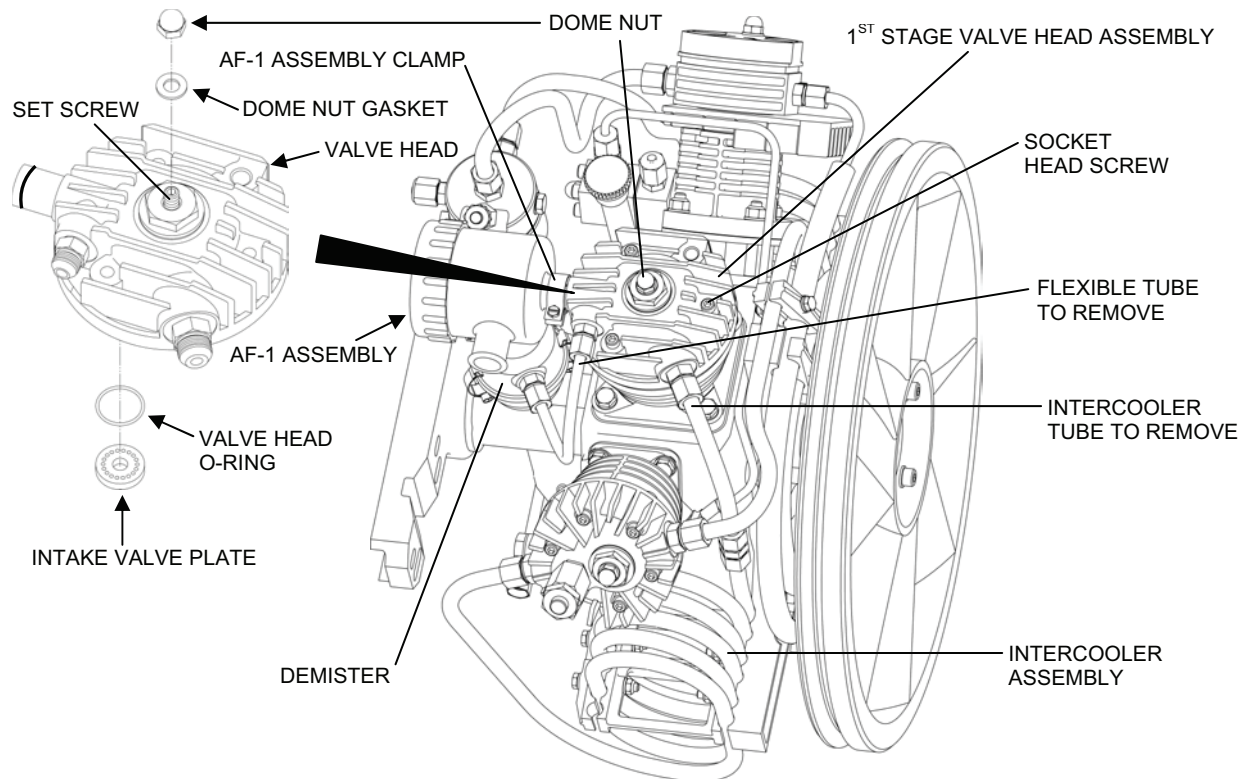

Figure 8. First Stage Valve Head Assembly Replacement.
3. Remove the first stage valve head assembly as follows (see Figure 8):
4. Install the new first stage valve head assembly as follows (see Figure 8):